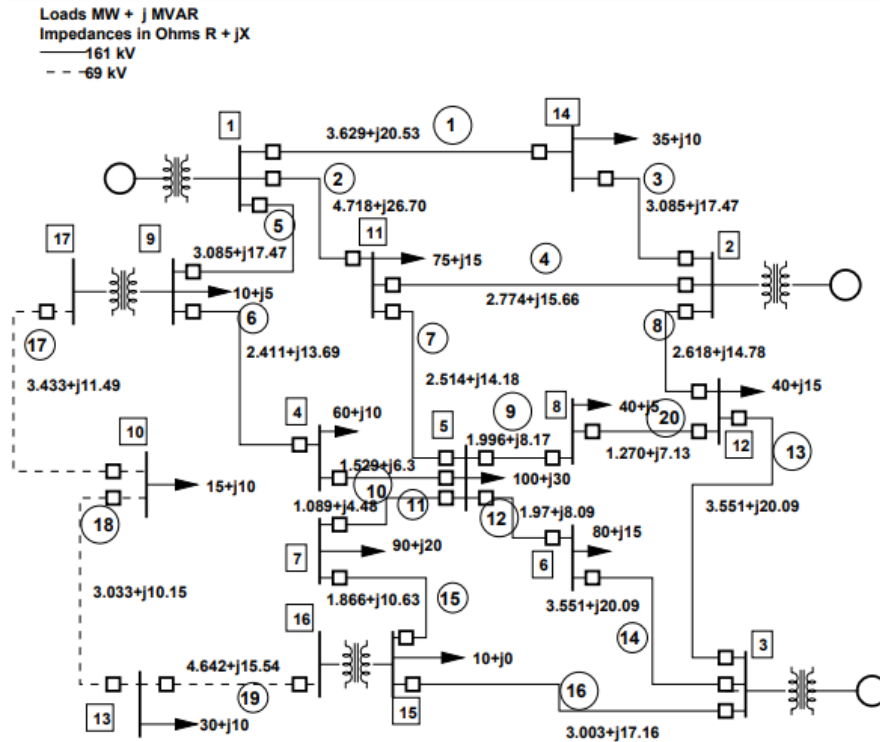

Figure 2: Example Power System
5. Re-draw the system diagram (figure 2) with all impedances and loads translated to per-unit. Assume that the transformers between 69 and 161 kV, buses 15 and 16 at one substation and between buses 9 and 17 at another substation are rated at 150 MVA and that their voltage ratings correspond with the nominal system voltages. You may represent them as purely reactive with $x_r = 8\%$ on their own base. For your per-unit normalization use a system base of 100 MVA and the nominal system voltages (161 and 69 kV). Note, of course, that power called out at each bus is MW+jMVAR and that voltage are line-line, RMS. **(For Open Book Examination and not for semester end examination)**